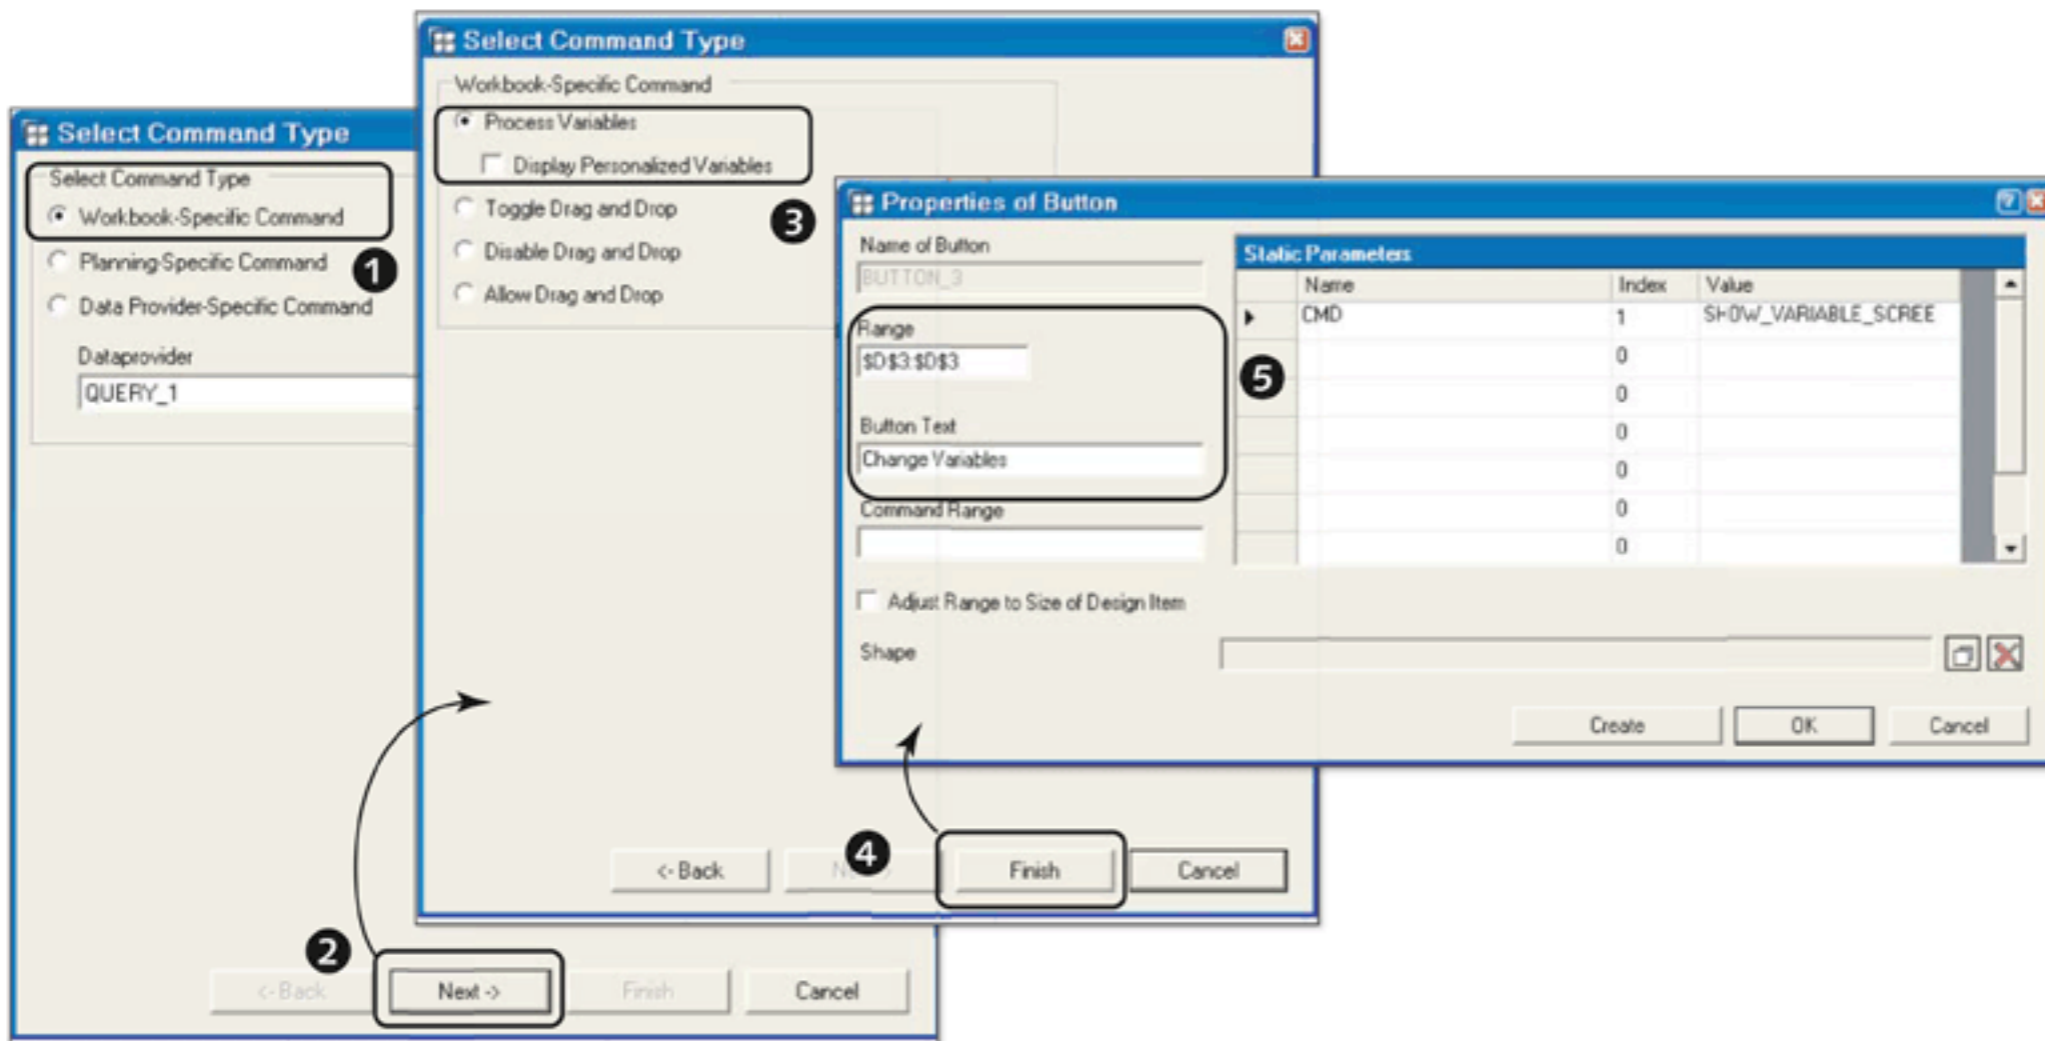

Figure 10.35 Set Properties for Button
For our example scenario, select WORKBOOK-SPECIFIC COMMAND (1 of Figure 10.35) for the inserted design item, and click on NEXT (2). On the next screen, select PROCESS VARIABLES from the list of workbook-specific commands (3), and click on NEXT. The next screen displays the static parameters for the selected command. You can also maintain the text and range for the button in the workbook (5). Finally, click on OK to return to the workbook (5).